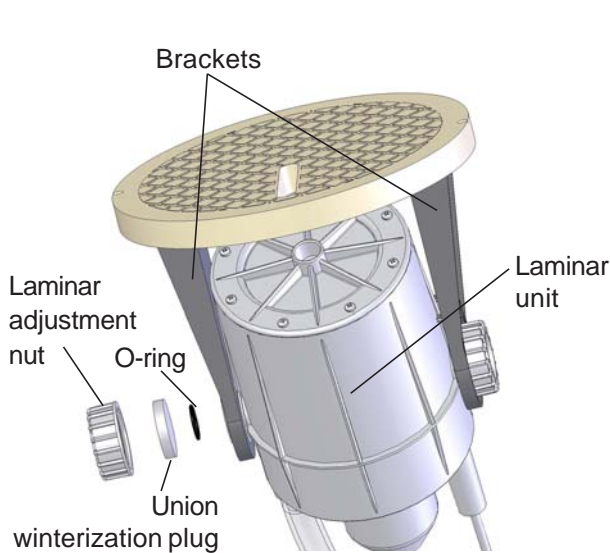
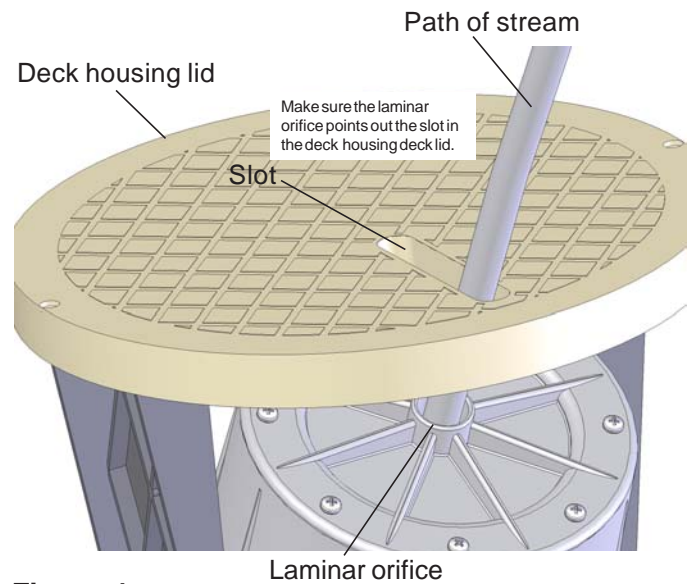

Figure 3
Figure 4
1. Carefully spread the brackets and slide the Laminar unit into the holes in the brackets (Figure 3), making sure the Laminar orifice is pointed out the top slot in the deck housing lid (Figure 4).